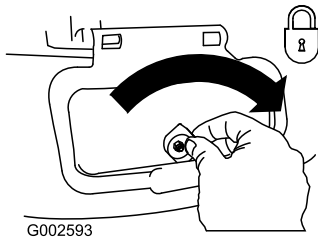

Figure 38
**Important:** Lock the side-discharge door after you close it (Figure 38).